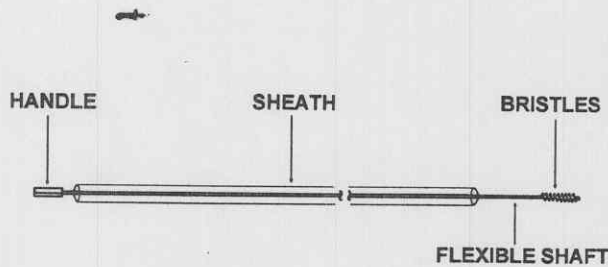

Figure 1-11. Cytology brush.
(1) *Cytology brush (fig 1-11).* The cytology brush includes an external plastic sheath to protect a cytological specimen while it is pulled through the channel of the fiberoptic bronchoscope.